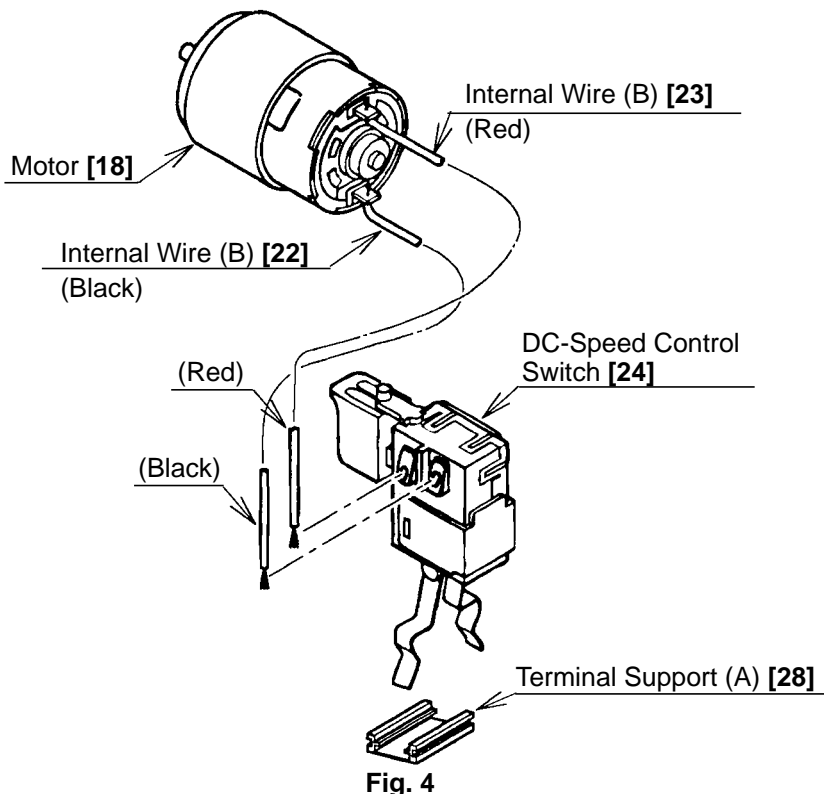

Fig. 4
(1) Reassembly of the power supply unit
- (a) Be sure to perform wiring connections as indicated in the wiring diagram. (See Fig. 4.)